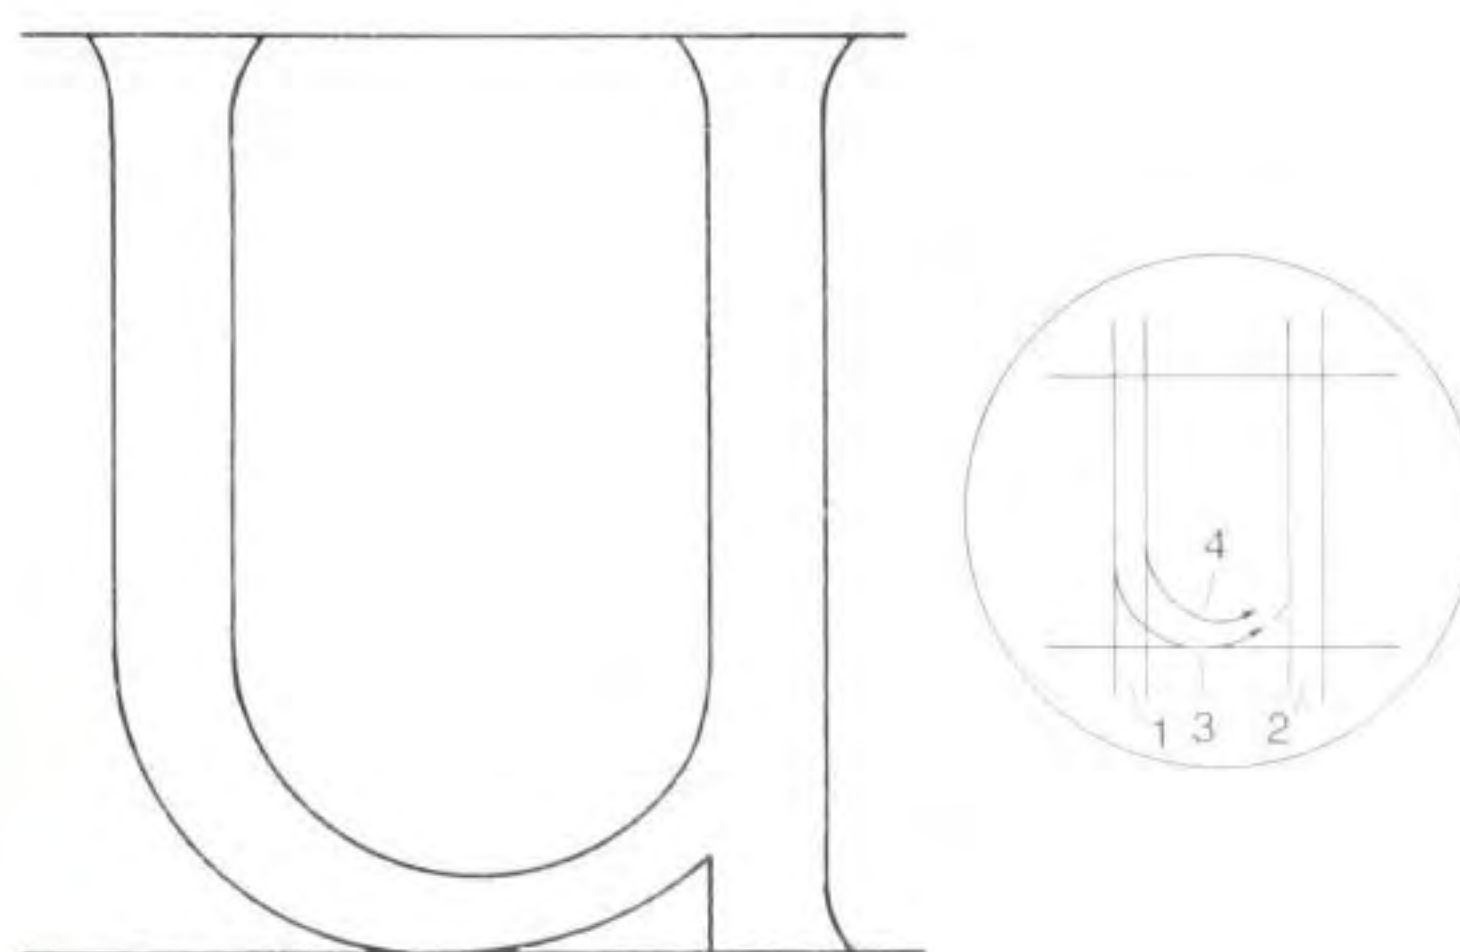

Fig 5.108 U: construction.
- 1 Refer to Fig 5.108. Carve the upright trenches first. Make sure the left trench does not invade the curved part of the letter.